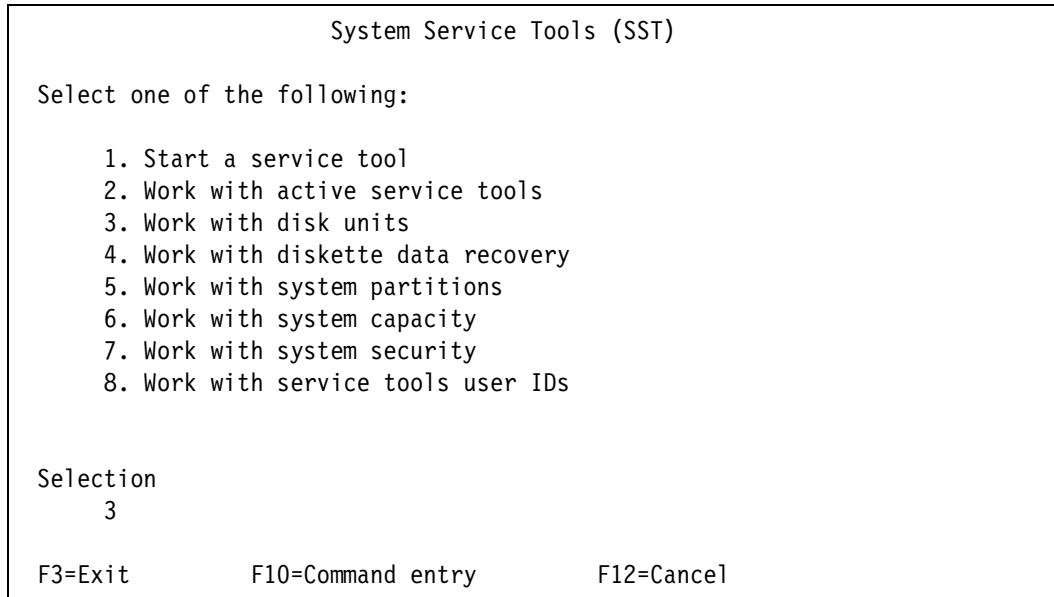

Figure 17-1 System Service Tools menu
2. Select Option 3, Work with disk units, as shown in Figure 17-1.